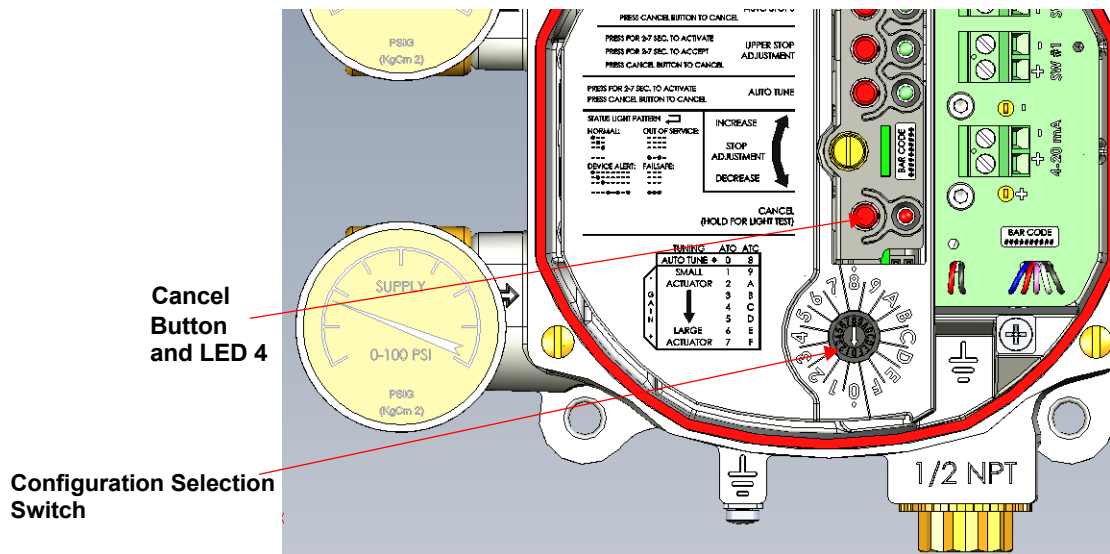

Figure 23 Configuration Selection Switch
- ❑ Use the *Configuration Selection Switch* to select a preset tuning value (Figure 23).